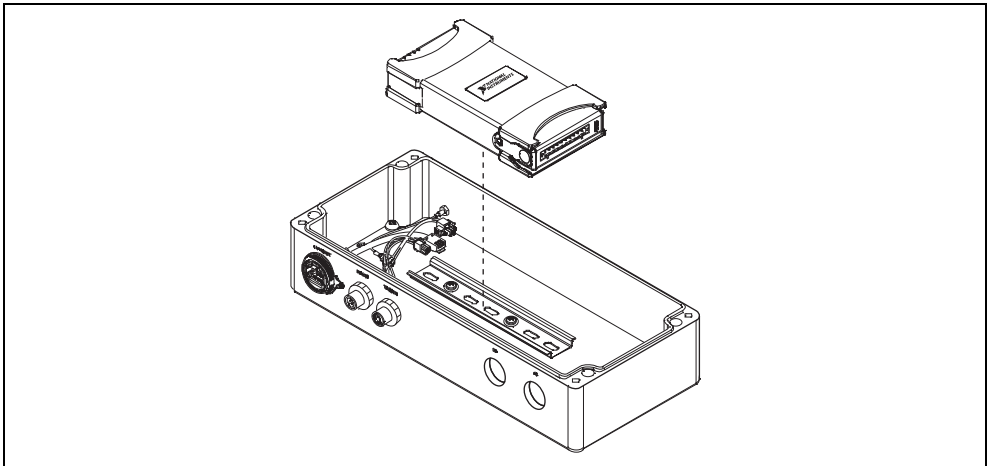

Figure 5. Connecting the NI WLS-9000 Series Device to the NI 9921/9922
2. Snap the NI WLS-9000 Series device onto the DIN rail of the NI 9921/9922 outdoor IP enclosure, as shown in Figure 5 and Figure 6.